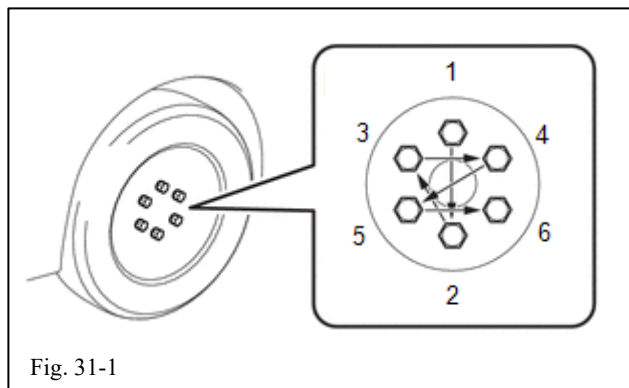

Fig. 31-1
- Align matchmarks on lower control arm x frame adjustment cam bolts (Fig. 31-1).